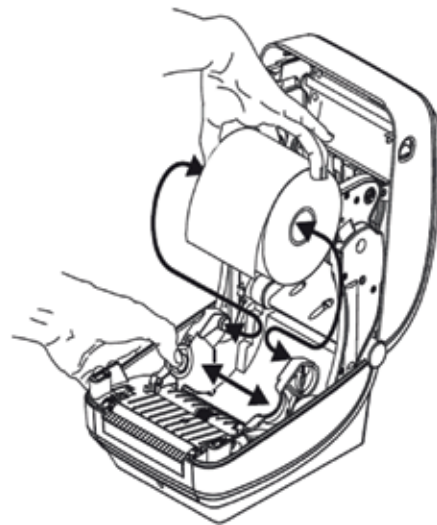

Figure 21
- Open the printer by pulling the two green buttons (on the sides of the printer) toward the front of the printer (see Figure 21).